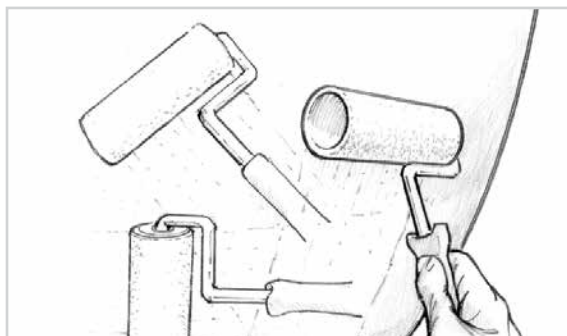

Figure 13-3 Apply a thin, even film of epoxy with a foam roller
5. Apply a second coat of epoxy to the hull before the first coat becomes tack free. Spread the epoxy out to a thin even film with the thin foam roller (Figure 13-3). Continue applying the epoxy, overlapping small coverage areas until the batch is used up.